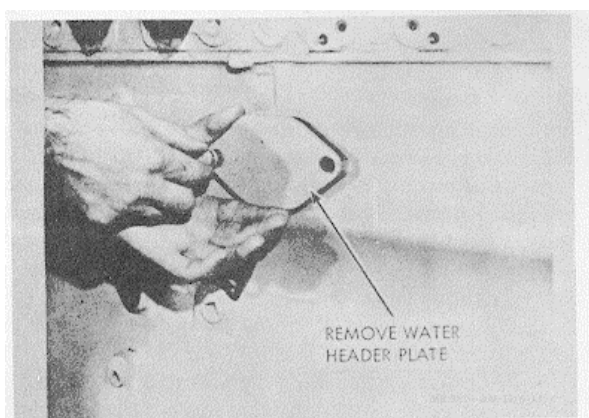

Figure 3-117. Water header plate, removal and installation.
- (1) Remove capscrews and lockwashers securing plate to block.
- (2) Remove plate and gasket from engine, figure 3-117; discard gasket.